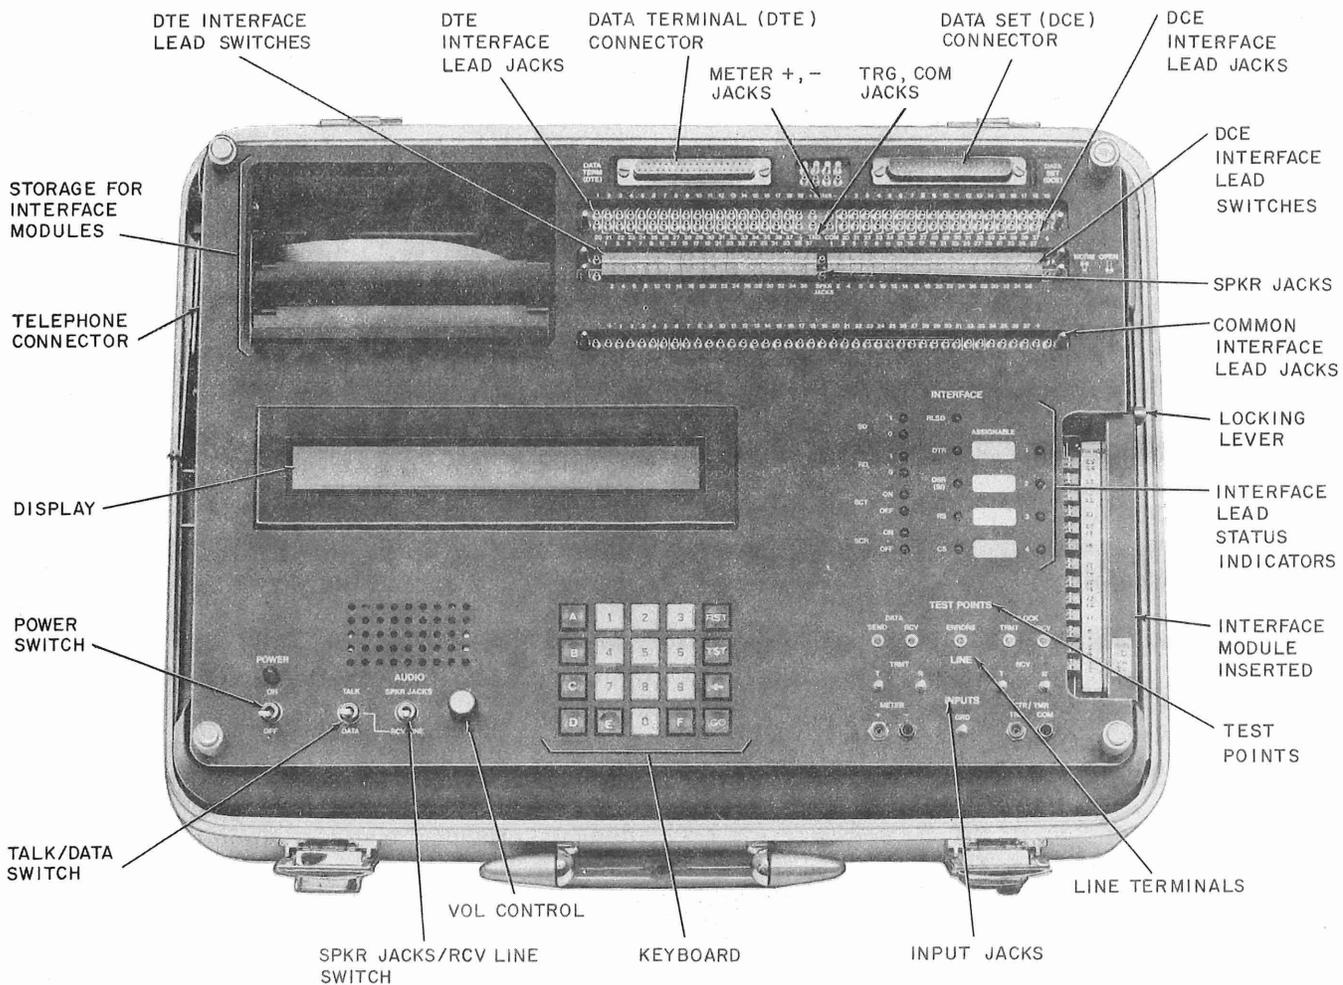

Fig. 1—921A Data Test Set—Front Panel
**1.04** The 921A DTS (Fig. 1) is a portable, general purpose, data test set that provides the serial testing capabilities of the 914C DTS and is compatible with the 914C DTS for end-to-end testing. In addition, the 921A DTS is compatible with the 911A and 911NA DTSs for end-to-end start-stop distortion measurements. Additional information concerning the 921A DTS is contained in Section 107-402-100.